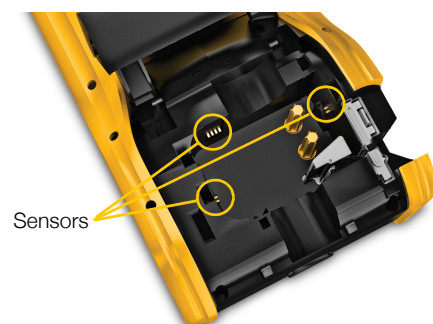

Figure 15
- 4 Use the sponge end of the cleaning tool to gently wipe the sensors using an up and down motion (not side to side). See Figure 15 for sensor locations.